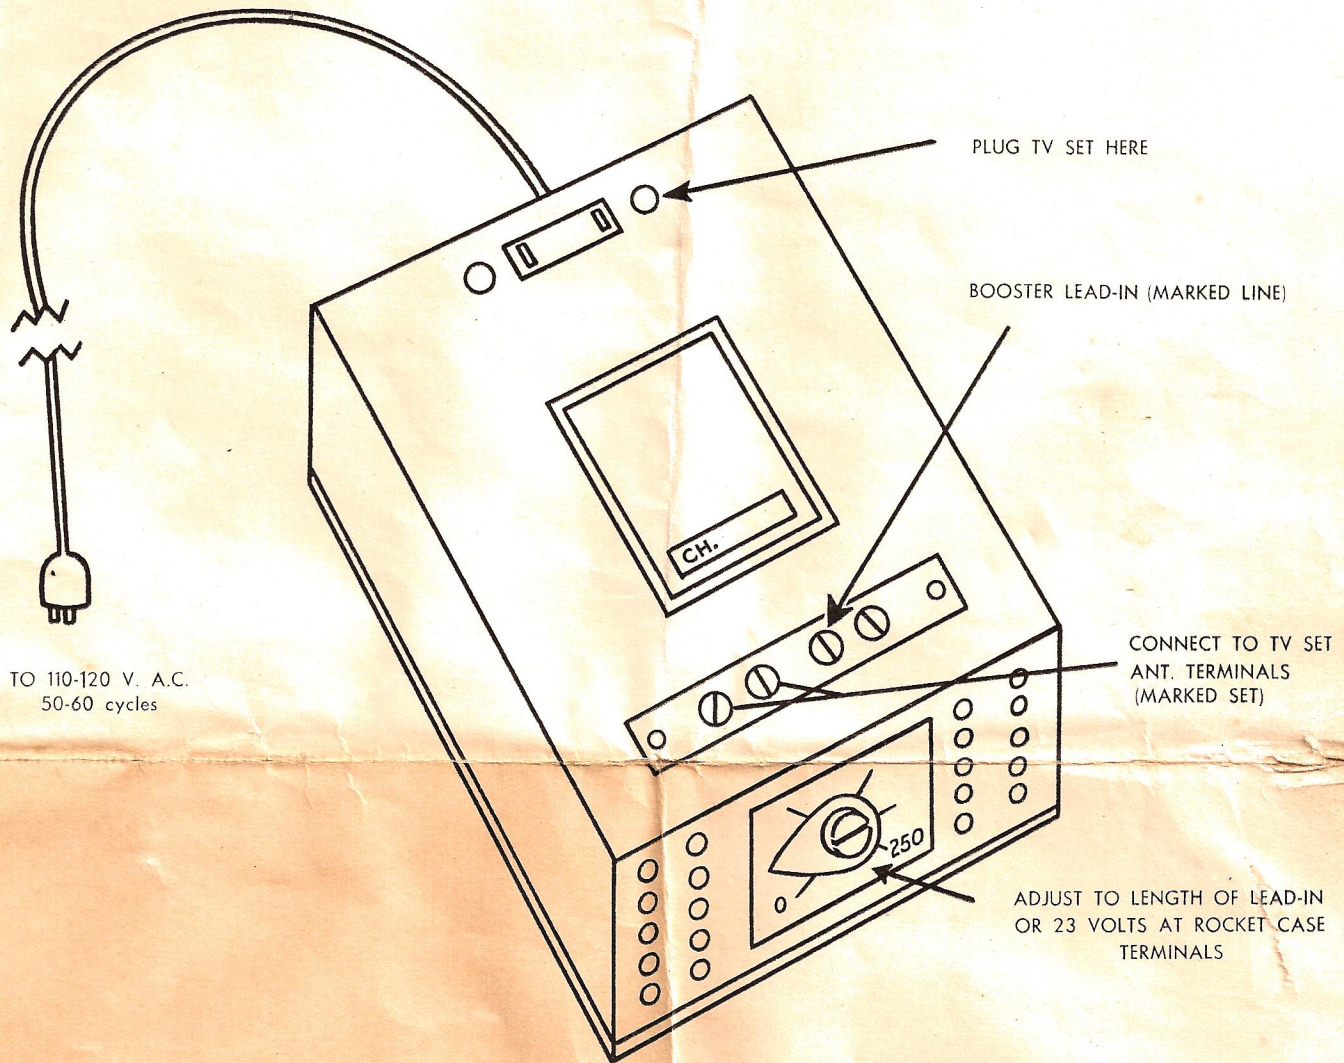

FIG. 4
- D. Control box (See Figure 4).